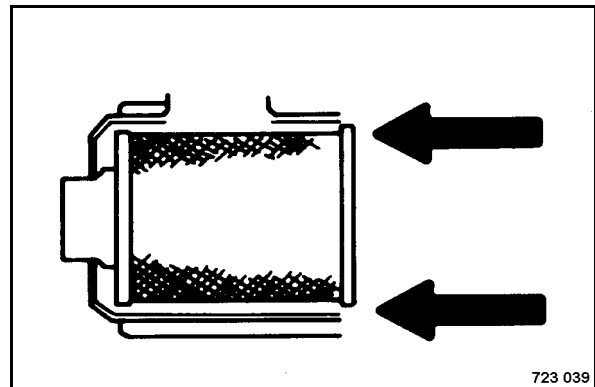

Fig. 191
- Slide the air filter carefully into the housing (Fig. 191).